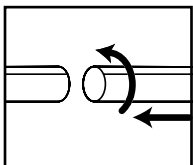

**FIGURE 12**
13. Press down on center of tool holder until tab latches on bottom of lid. **FIGURE 12.**